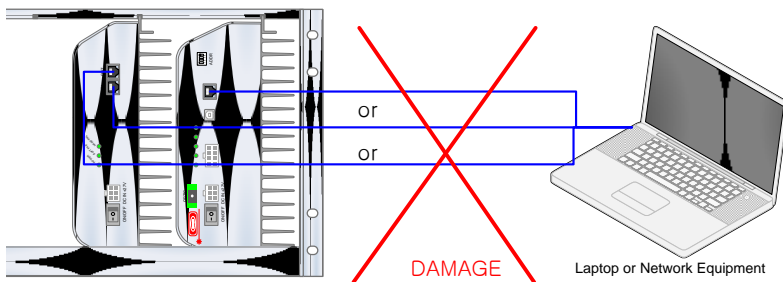

Figure 3-25 Do NOT connect RS-485 ports of Remote Module to network equipment port
- **WARNING! The RS-485 ports should NEVER be connected to the Ethernet port of laptop or Ethernet Network Equipment. Doing so may cause serious damage to the Remote Modules or network equipments. (Figure 3-25)**